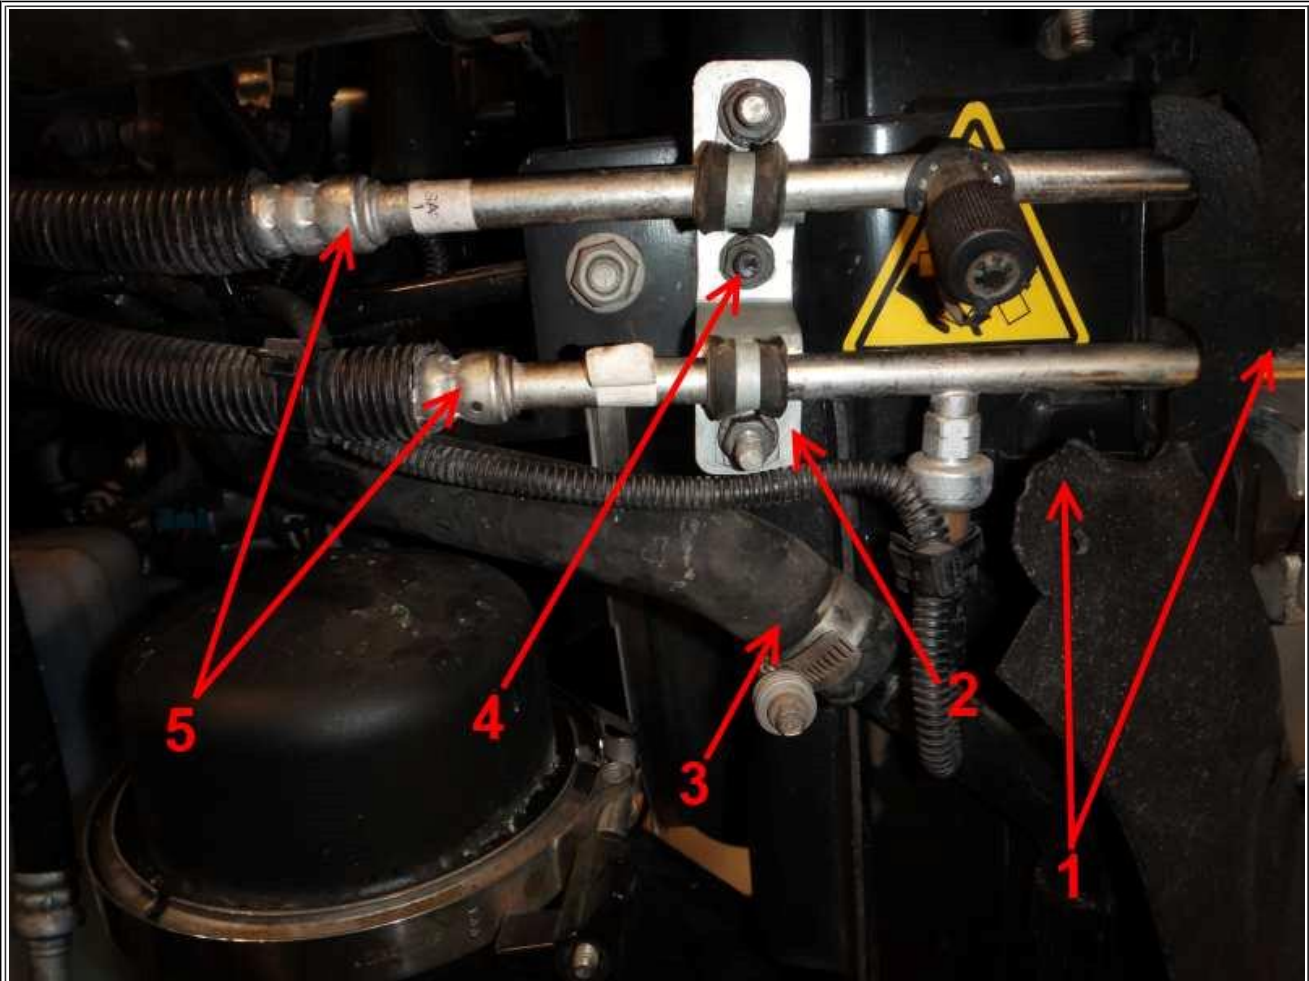

Figure 4: A/C Line Bracket
12. Remove the nut securing the A/C condenser line bracket to the radiator (**Figure 4**, Item 4).
13. Loosen the hose clamp and remove the Low Temp Radiator (LTR) return hose from the return tube (**Figure 4**, Items 3).
14. Cut the recirculation seal to allow the condenser to swing around the engine (**Figure 4**, Item 1).